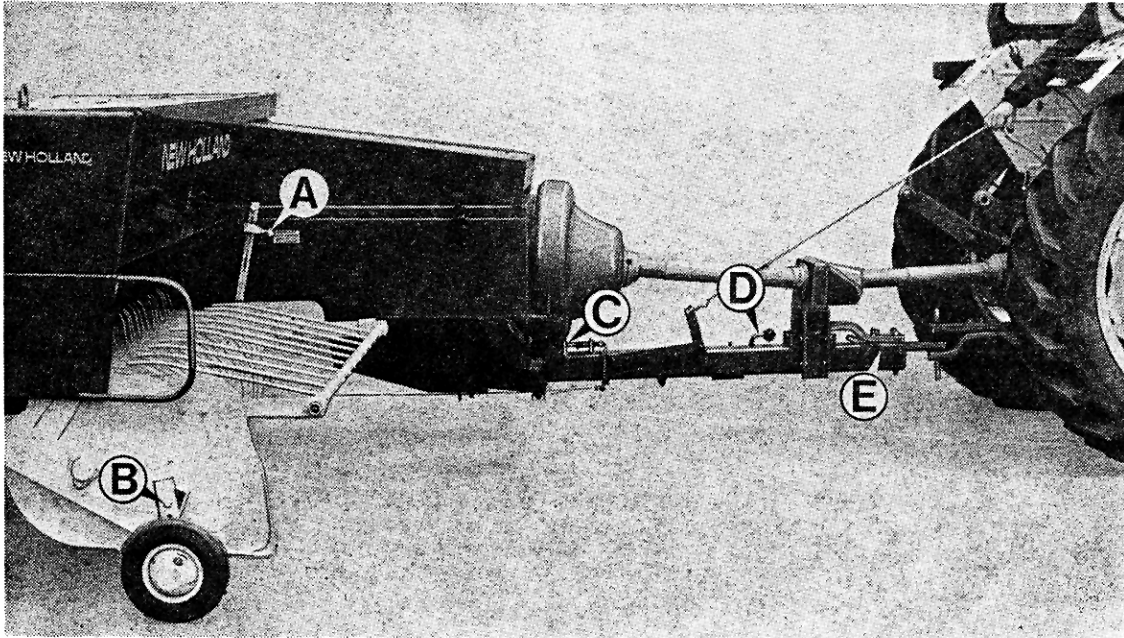

Figure 17
1. Lower pick-up and ensure overcentre latch A (Fig. 17) is pointing forward.
3. Swing drawbar to working position C (Fig. 17).
4. Ensure jack is in its raised position D (Fig. 17).
5. Ensure P.T.O. support is folded back, E (Fig. 17).